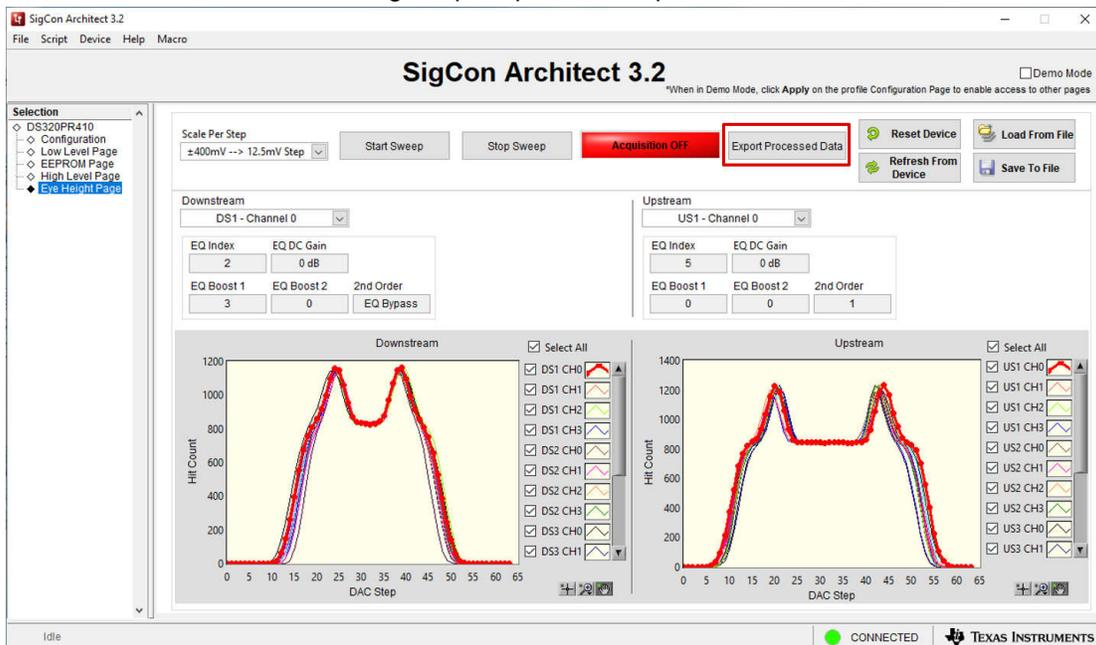

Figure 6-7. Eye Height Page: Export Processed Data
- To export the selected channel's raw *EyeScan* data, click the *Export Processed Data* button highlighted in Figure 6-7. Save the raw data file using the prompted File Explorer.